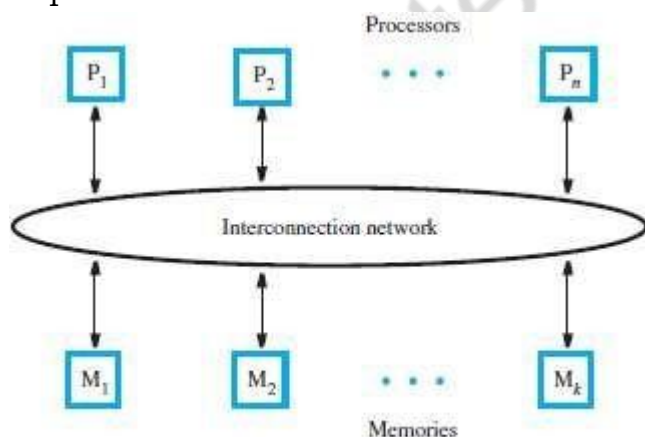

Figure 12.2 A UMA multiprocessor.
- An interconnection-network permits  $n$  processors to access  $k$  memories (Figure 12.2). Thus, any of the processors can access any of the memories.